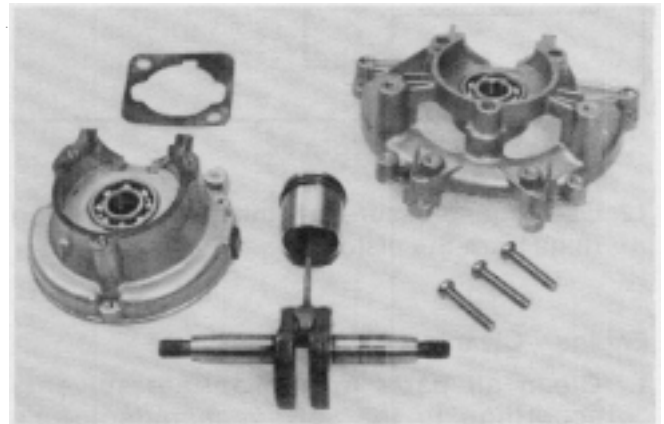

Figure 90
9. From the flywheel end, remove the three screws with lock washers securing the crankcase halves together and pull apart the crankcase halves. Carefully remove the crankshaft with attached connecting rod and piston. The crankshaft ends on the TC1000 are identical. See Fig. 90.